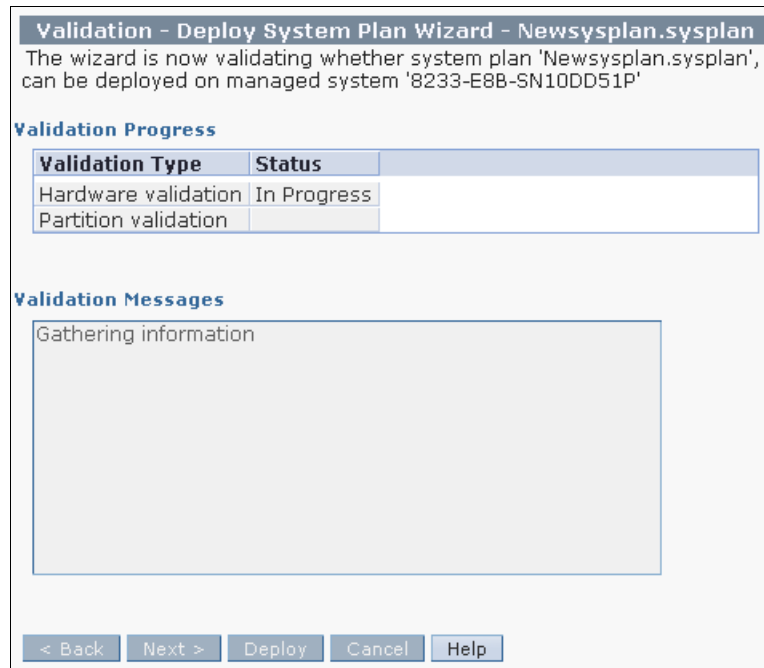
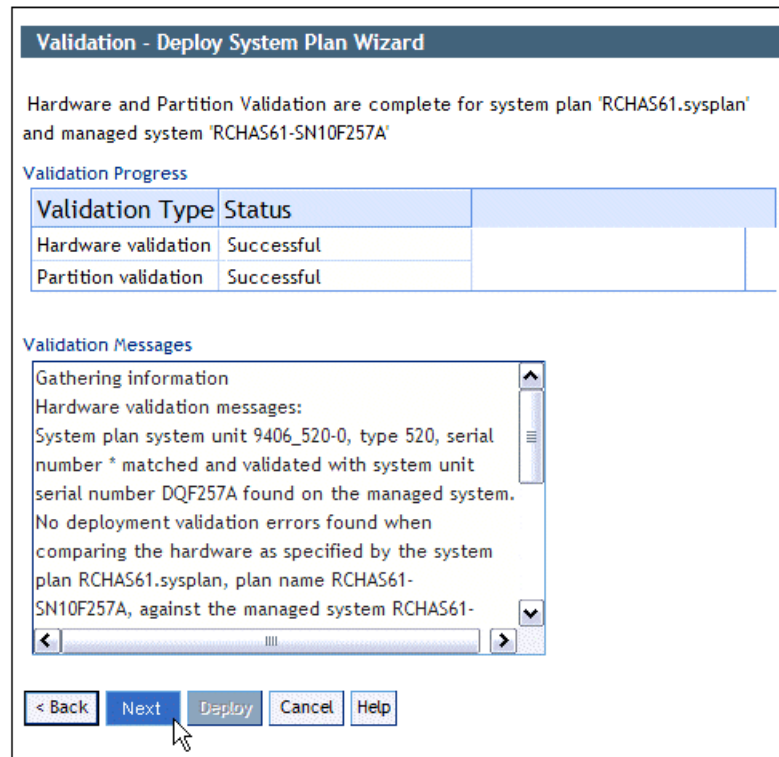

Figure 2-16 Deployment validation in progress
Figure 2-17 Example of successful validation
3. Figure 2-16 shows you the validation progress. When the progress completes (Figure 2-17 on page 34), you can examine all the related messages. You can view the messages that are successful and the messages that are unsuccessful.
Figure 2-17 shows an example of a successful validation.